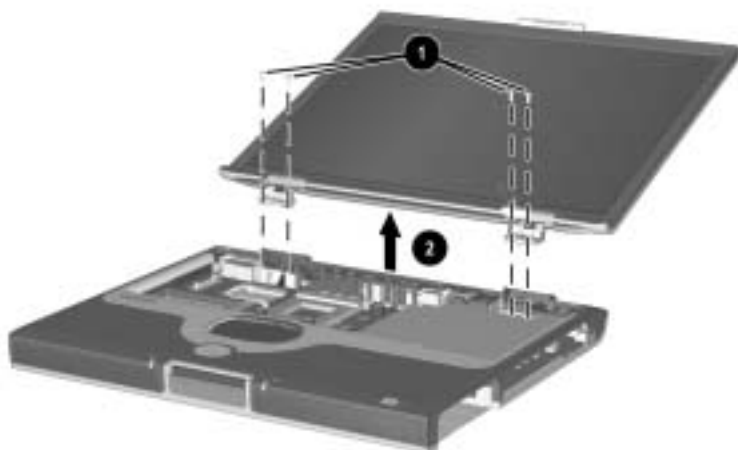

Figure 5-26. Removing the Display
9. Remove the four TM2.5 × 9.0 screws ❶ that secure the display to the base enclosure (Figure 5-26).
10. Remove the display from the base enclosure ❷.